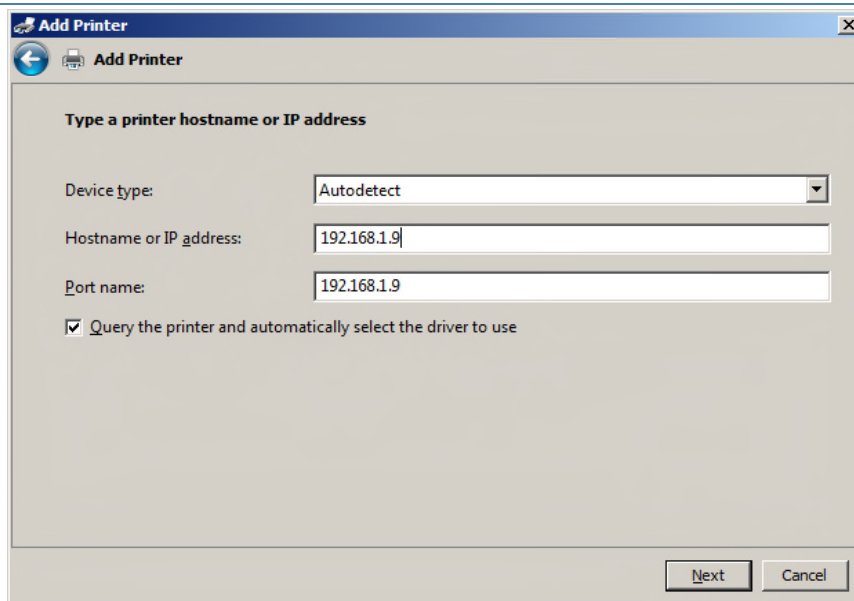

Figure 10.31 – Network Printer Configuration
14) Select **Create a new port:** Next to **Type of port:** select **Standard TCP/IP port** and click **Next** as shown in Figure 10.31.